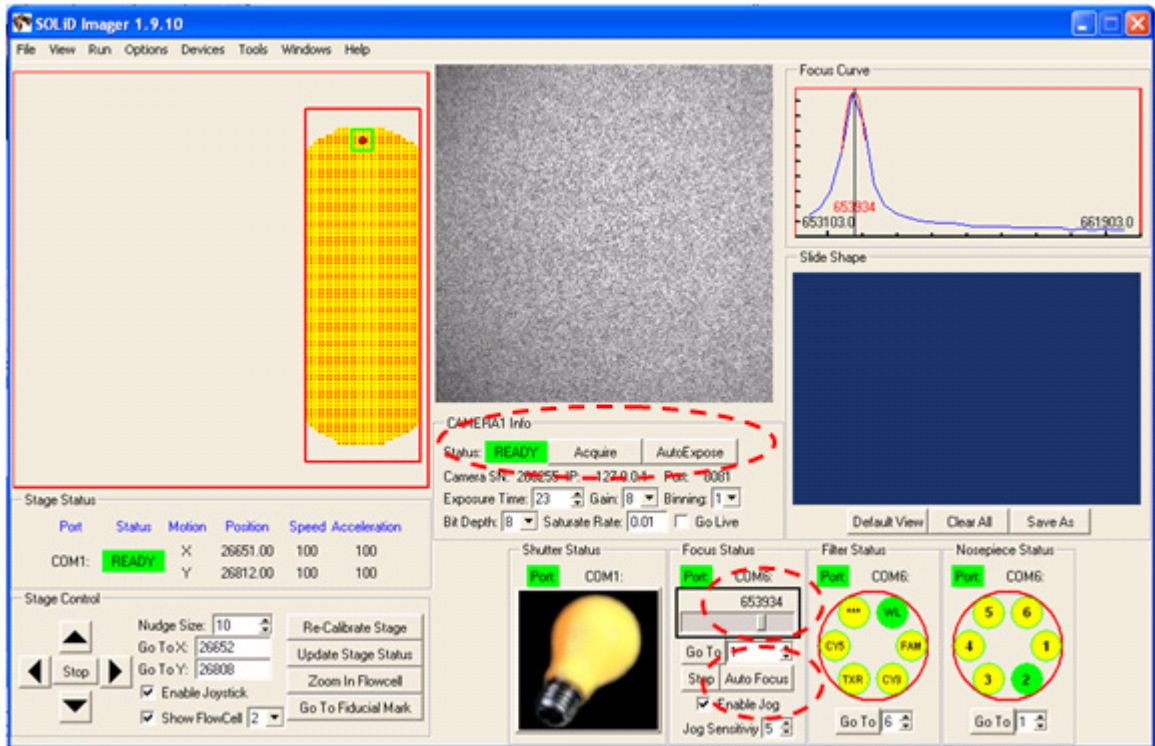

Figure 89 Record the Z distance value.
7. Record the Z distance value from the Focus Status pane (see Figure 89).